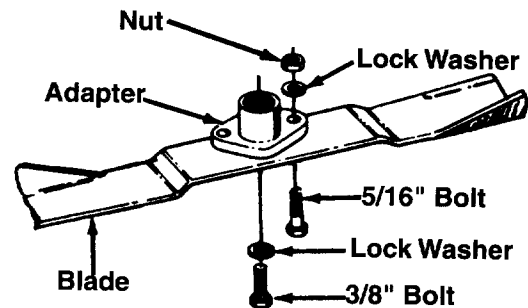

FIGURE 22B.—50" Deck
3. Remove the two 5/16" bolts, lock washers and nuts holding the blade to the adapter. See figure 22B.